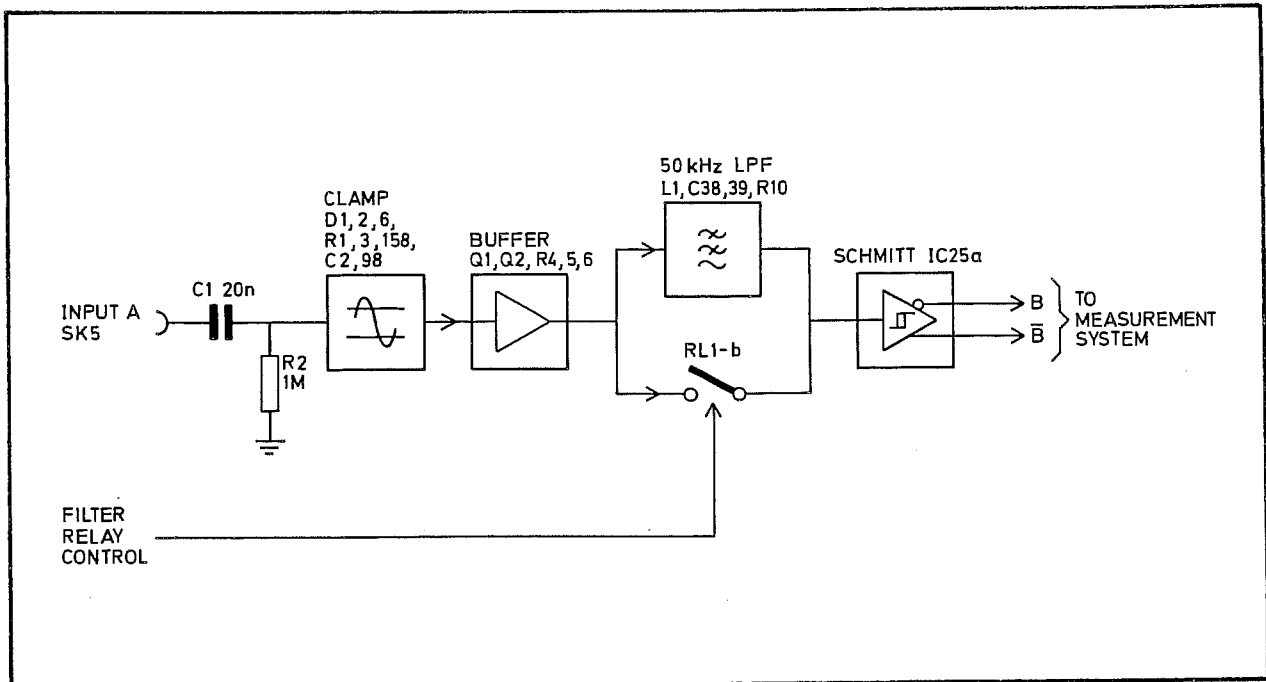

Fig. 6.2 The Channel A System
- 6 The channel A system processes the signals applied at INPUT A to produce a pair of differential signals that are fed to the measurement system. A block diagram is given in Fig. 6.2.